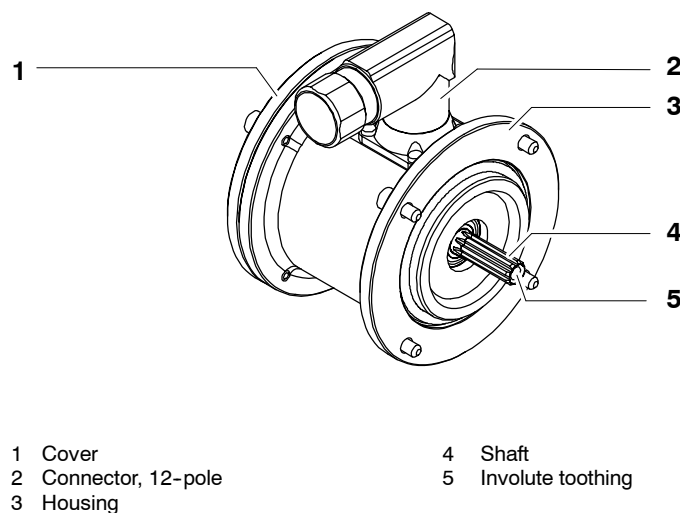

Fig. 1 Resolver module
The module consists in its essential components of the housing (Fig. 1/3), the resolver, the bearings and the shaft (5). The shaft and rotor of the resolver are bonded together. The housing (3) and shaft are shaped such that any combination of several resolver modules in sequence is possible. For this purpose the shaft is equipped with inner and outer involute toothing (5). The module is closed at the back by a cover (1).